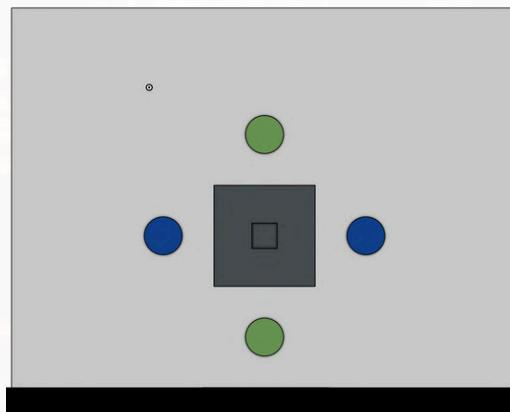
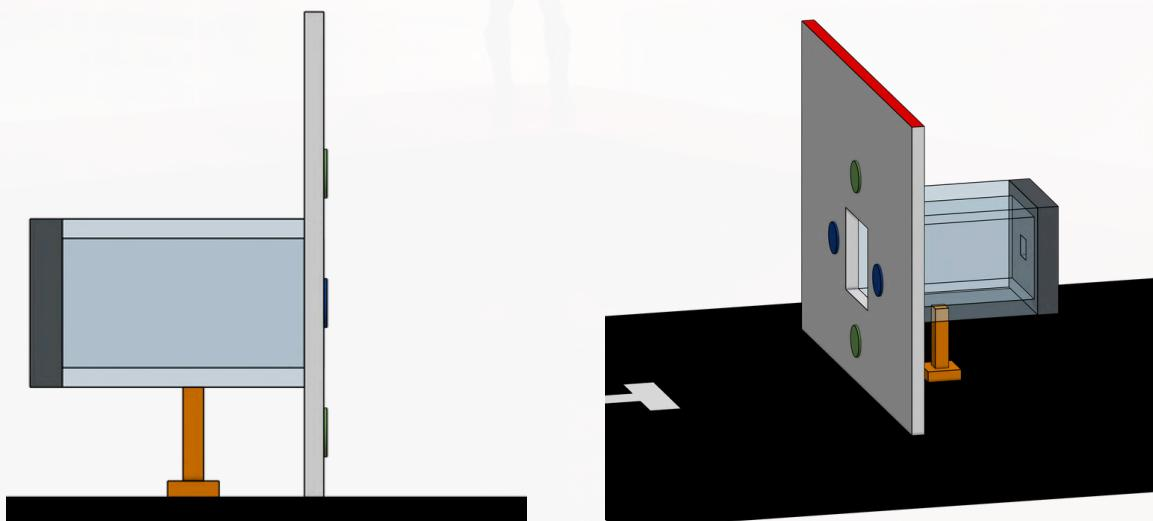

Figure 13 - Particle Laser Front View (For dimensions refer to the provided Onshape assembly)
Figure 14 - Particle Laser Particle Laser Side view (left), Isometric View (right). (For dimensions, refer to the provided Onshape assembly)
- In task 3, the Particle Laser / Cube Insertion Tube will be constructed according to the dimensions shown in Figure 13 and Figure 14.
- 2 pairs of circular markers, colored green and blue, will be placed at the locations indicated in Figure 13.